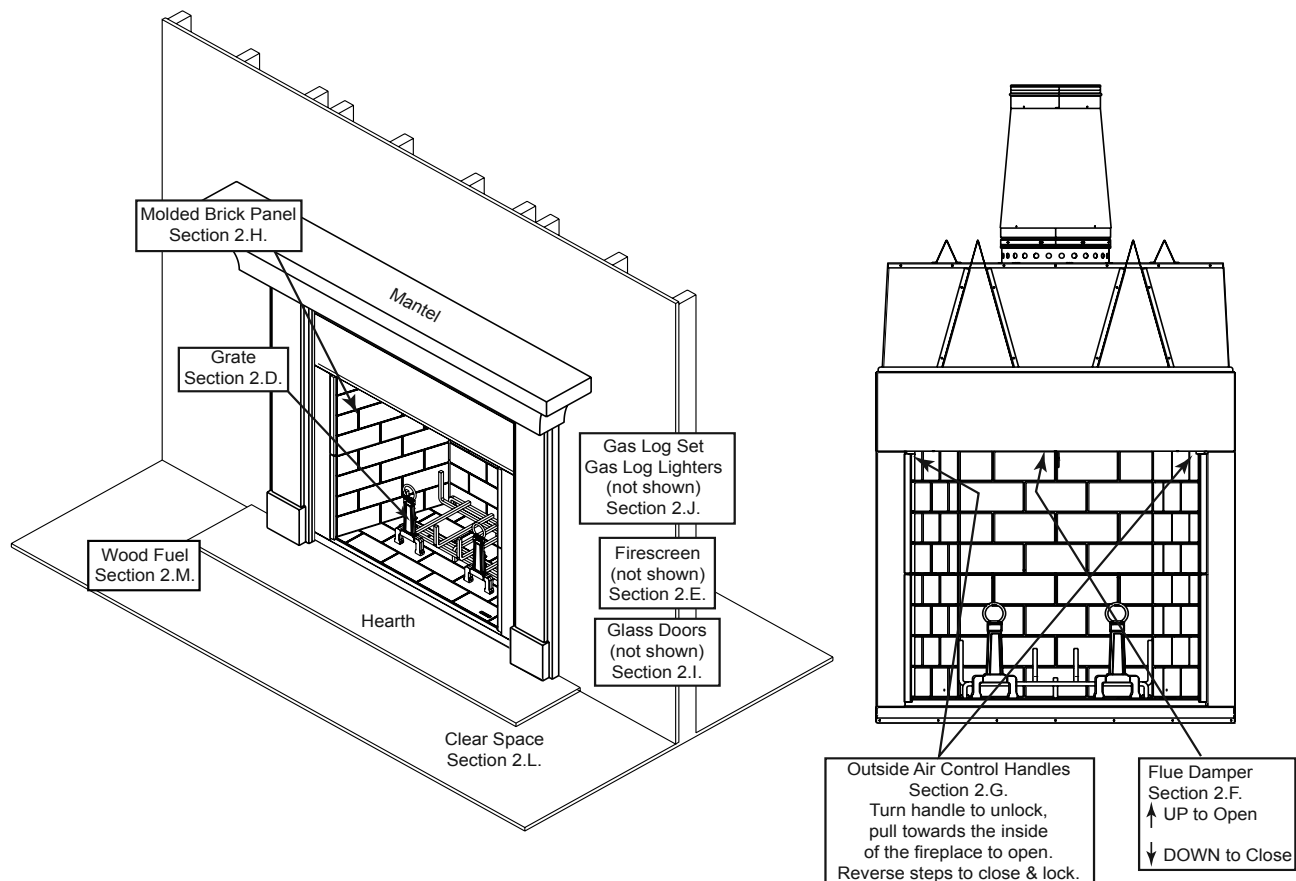

Figure 2.1 General Operating Parts
- Refer to Figure 2.1 for location of control.
- Refer to Figure 2.1 for location of controls.